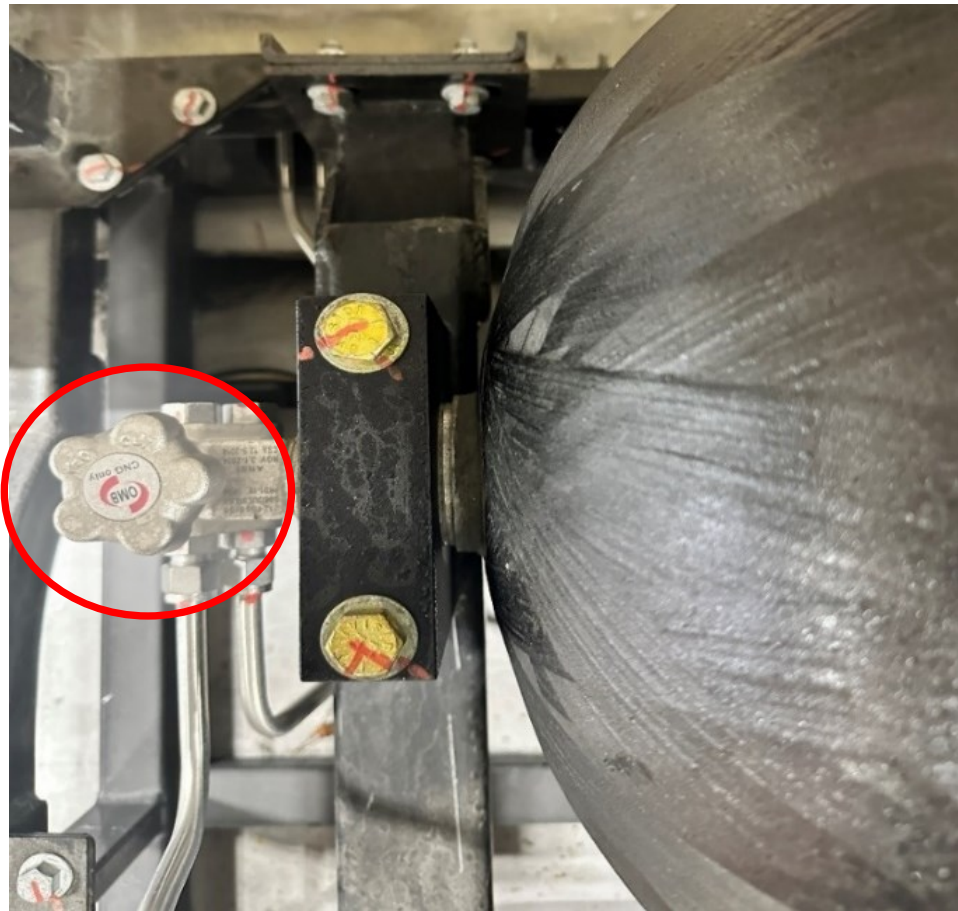

Figure 15 - Tank valve to be turned off.
1. Ensure all valves are closed except for the tank you intend to work on. It can be helpful to run the bus to ensure all the CNG is out of the cylinder. See Figure 15 above for a picture of the valve.